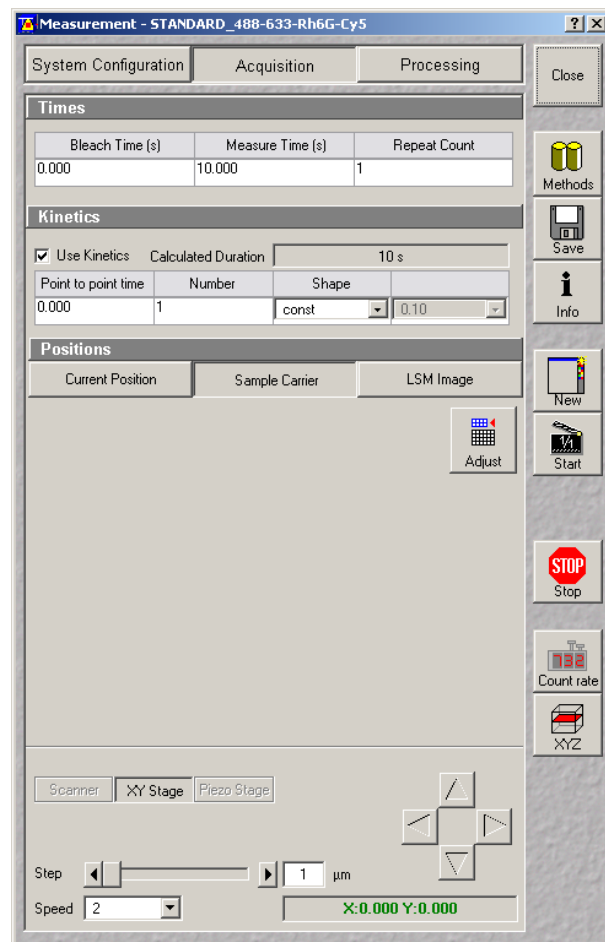

Fig. 4-49 Measurement window, Application
- To change the collimator setting, click the **Adjust** button in the **Pinhole** panel of the **Measurement** window (see Fig. 4-49).